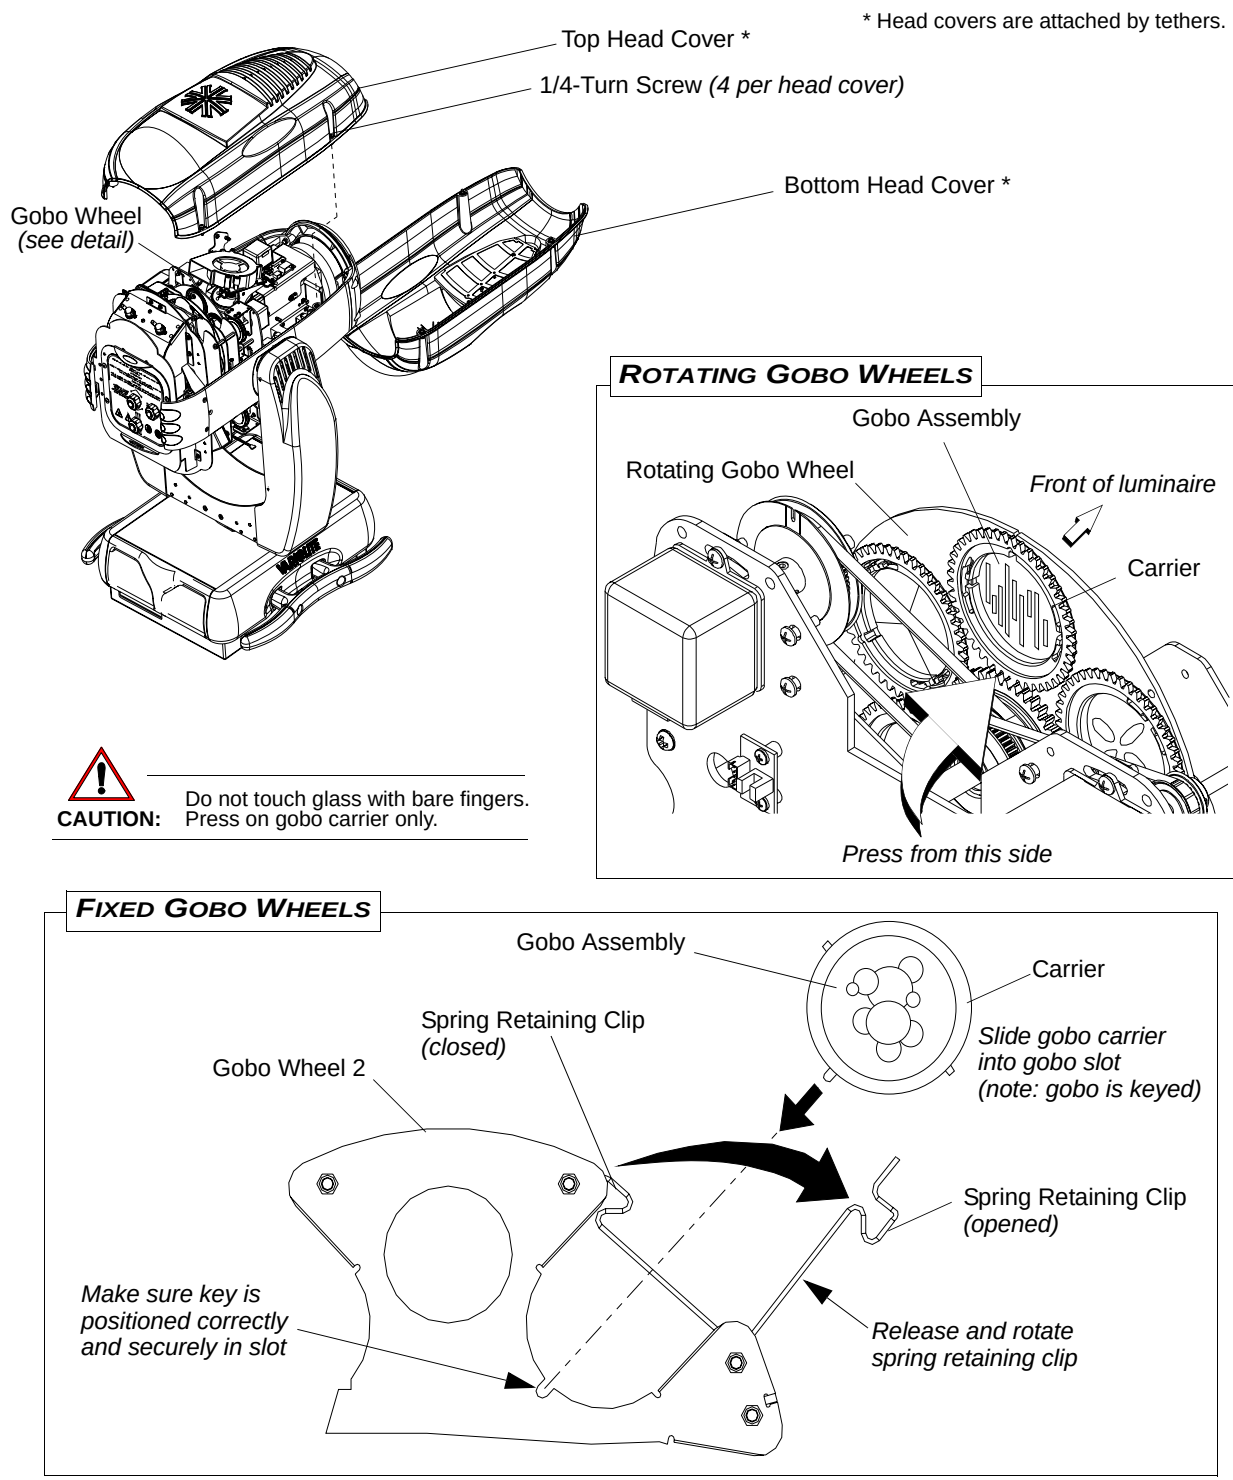

Figure A-3: Replacing Gobos
- To access Wheel 1, remove bottom cover as shown in Figure A-3.
- To access Wheel 2, remove top cover as shown in Figure A-3.
- Release (open) spring retaining clip as shown in Figure A-3.